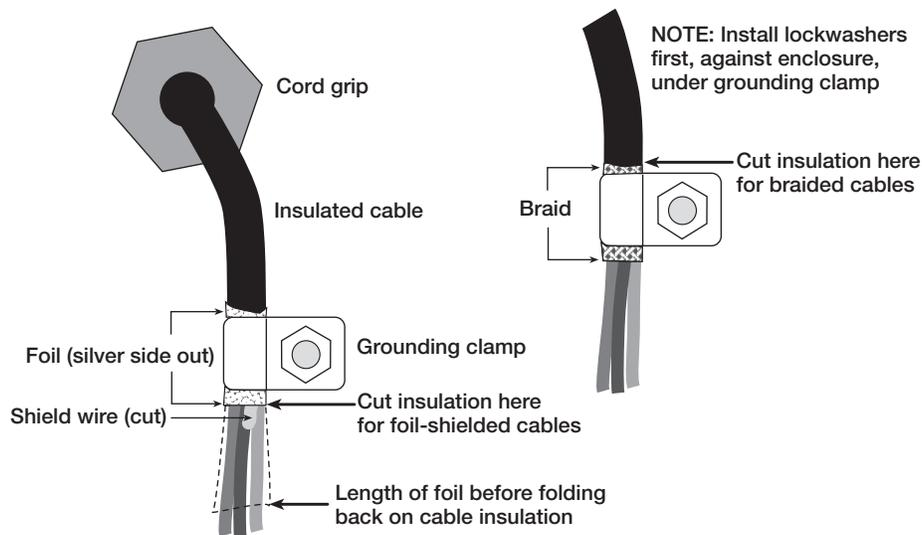

Figure 2-3. Grounding Clamp Attachment for Foil-Shielded and Braided Cabling
- For cables with foil shielding, strip insulation and foil from the cable half an inch (15 mm) past the grounding clamp (see Figure 2-3). Fold the foil shield back on the cable where the cable passes through the clamp. Ensure silver (conductive) side of foil is turned outward for contact with the grounding clamp.
- For cables with braided shielding, strip cable insulation and braided shield from a point just past the grounding clamp. Strip another half inch (15 mm) of insulation *only* to expose the braid where the cable passes through the clamp (see Figure 2-3).
- Route stripped cables through cord grips and clamps. Ensure shields contact grounding clamps as shown in Figure 2-3. Tighten grounding clamp nuts.